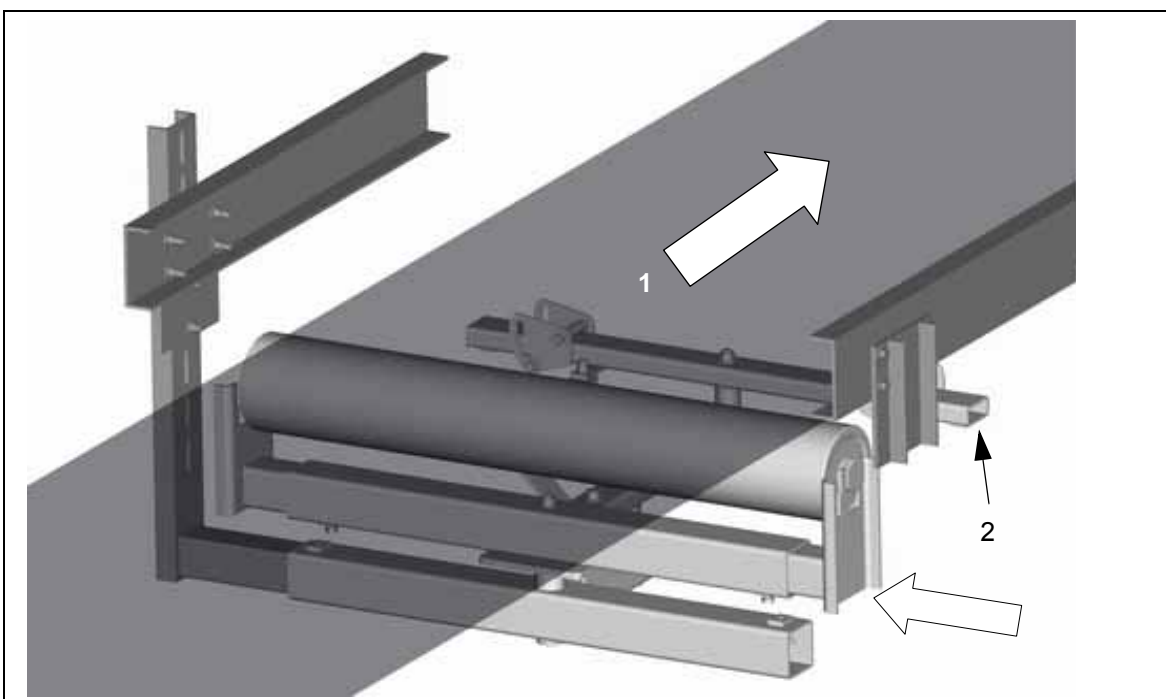

Fig. 8: Installing the tracker in the installation frame
9. Insert the pre-installed tracker in the installation frame installed earlier. Pay attention to the direction of movement of the conveyor belt (1, Fig. 8) and the alignment of the guide unit (2, Fig. 8).